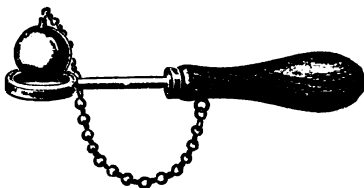

FIG. 1
**8. Expansion of Solids.** The expansion effect upon solids may be shown as follows: Figure 1 represents a ball and ring, both made of brass, the inside diameter of the ring being just equal to the diameter of the ball as long as both are at the same temperature. If the ball is heated considerably, it will be found that it will no longer pass through the ring. If the ring also is heated, the ball will now pass through.